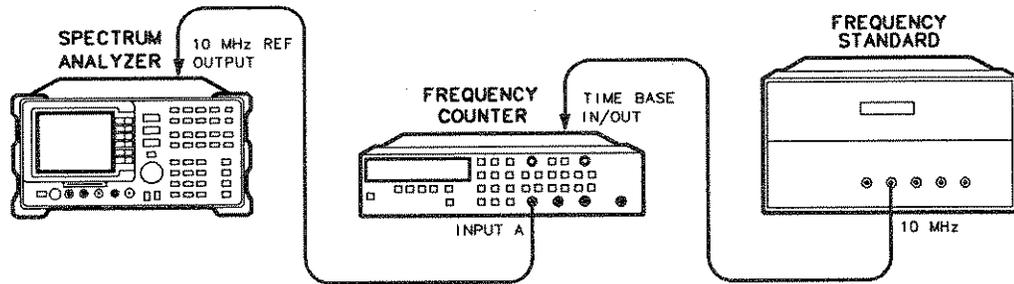

Figure 4-26. 10 MHz Reference Accuracy Test Setup, Option 004
1. Allow the spectrum analyzer to sit with the power off for at least 60 minutes before proceeding. Connect the equipment as shown in Figure 4-26.